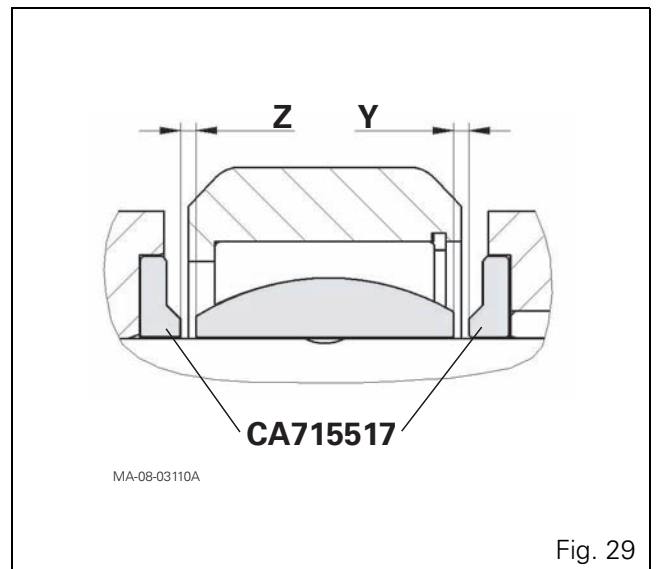

Fig. 29
32. Measure clearances Y and Z using thickness shims between the two spacers CA715517 and the suspension ram (Fig. 29).